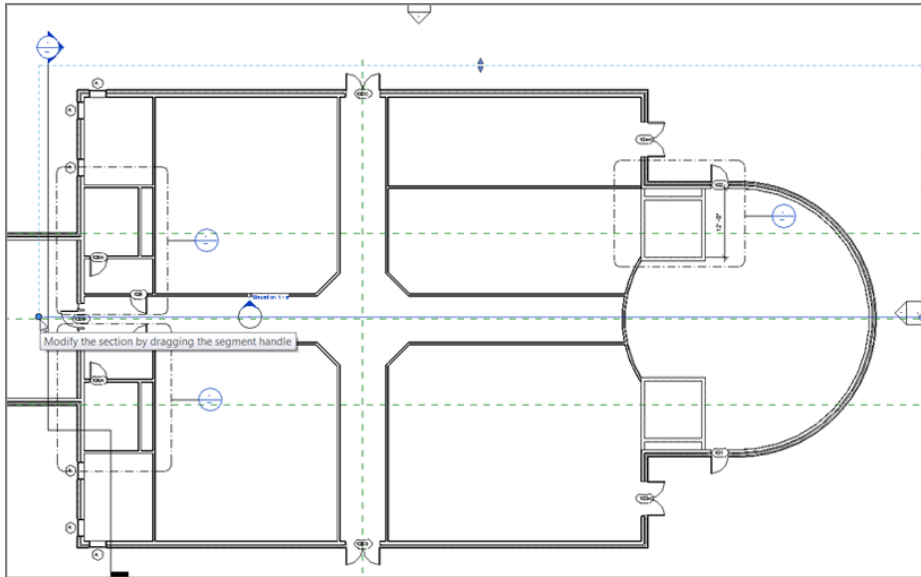

FIGURE 3.79: Adding an interior elevation and making the adjustments
3. In the Type Selector, choose Elevation : Interior Elevation, and place it in the area shown in Figure 3.79.
4. Hover your cursor in the corridor near a point shown in the middle of Figure 3.79. Notice that when you move your cursor up, the arrow flips up. When you move your pointer down, the arrow flips down.
5. Make sure the arrow in the elevation target is pointing up, and then pick a point along the horizontal corridor, as shown at the right of Figure 3.79, to place the elevation. Once it's placed, press Esc to terminate the command.
6. After you place the elevation, select the arrow. Notice that the extents are outside the building. (This occurs in most cases. If it doesn't, you're good to go.) Select the elevation again and, on the left side, pick the blue grip and drag the left extent to the point shown at the left in Figure 3.79. Repeat the process for the right side as well.